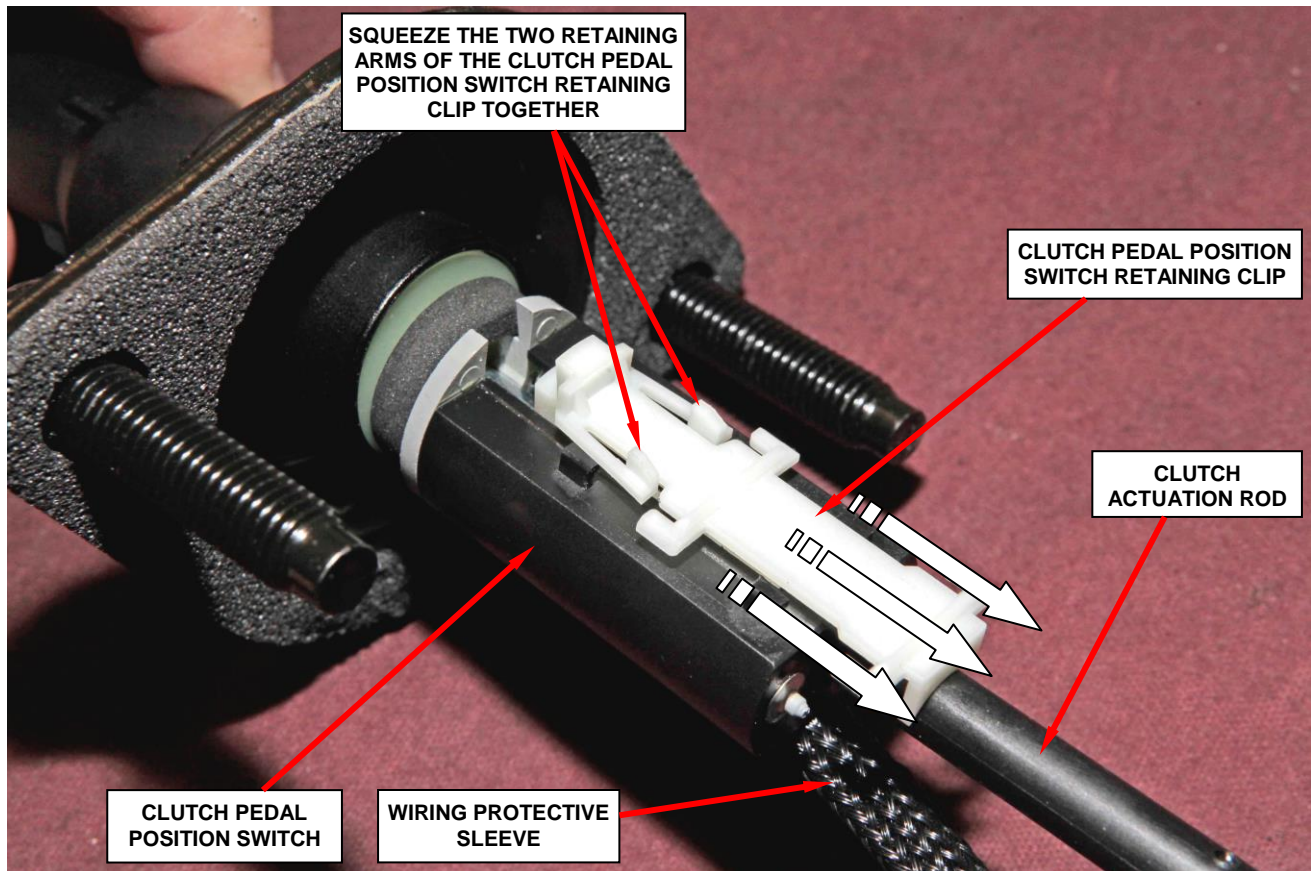

Figure 2 – Clutch Pedal Position Switch Retaining Clip
- a. Squeeze the two clutch retaining arms of the pedal position switch retaining clip together (Figure 2).
11. Install the original white plastic clutch pedal position switch retaining clip (Figure 2).